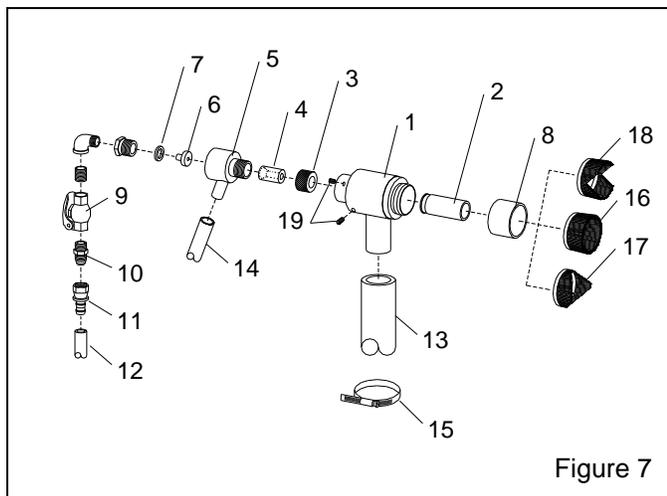

Figure 7
**8.2 Blast Head and Control Assembly, Figure 7**